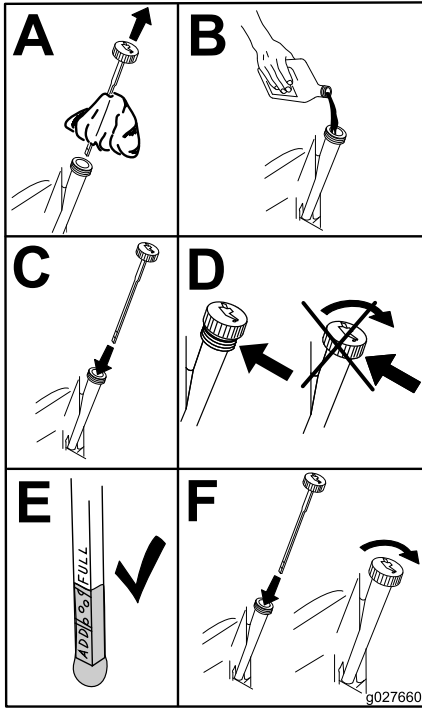

Figure 45
- Slowly pour approximately 80% of the specified oil into the filler tube and slowly add the additional oil to bring it to the **Full** mark (Figure 45).